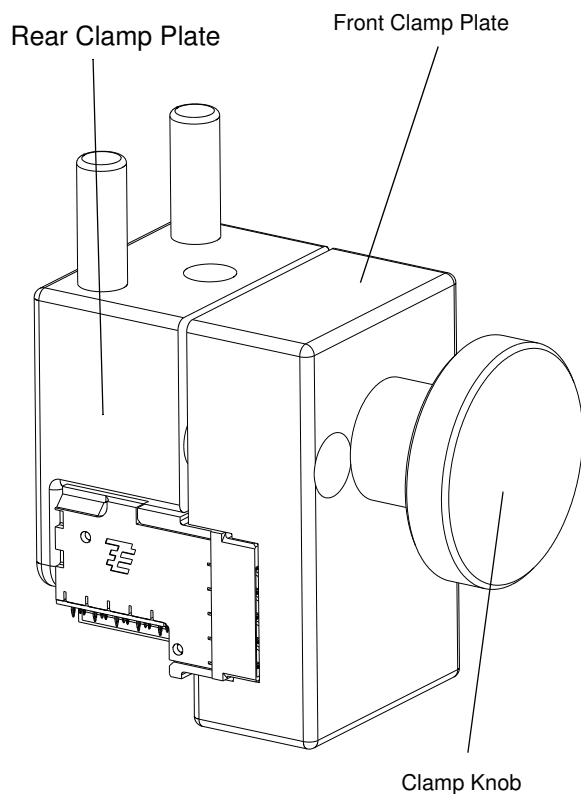

Figure 4
3. Tighten the clamp knob to clamp the receptacle. Hand tightening should be sufficient. See Figure 4.